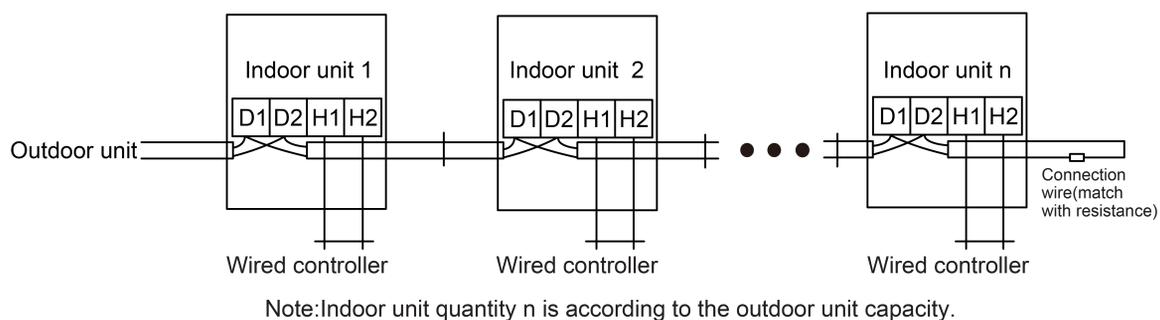

Fig.5.3.2
- (4) Fix the communication cable with clamp of electric box.
- (5) For more reliable communication, make sure connect the downstream IDU of the communication bus (terminal D1 and D2), as shown in Fig.5.3.2, terminal resistor to the most terminal resistor is provided with each ODU.